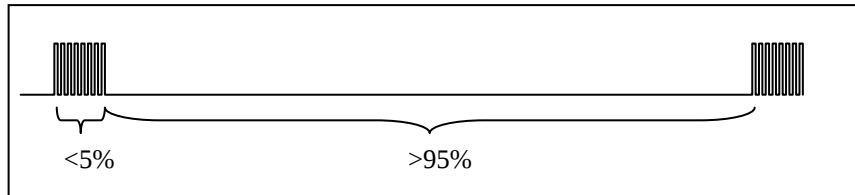

Figure 2: Pulse timing
whole polling time (the time from the rising edge of Latch to the last falling edge of Pulse) be no more than 5% of the time between Latches (so the controller is idle 95% of the time). See Figure 2 for an illustration of this idea.
2. Turn in a simulation which shows your Latch and Pulse signals being generated correctly to perform two polling operation of the controller. Your simulation should look much like Figure 2 but should show Latch and Pulse rather than just Pulse. (20 points)